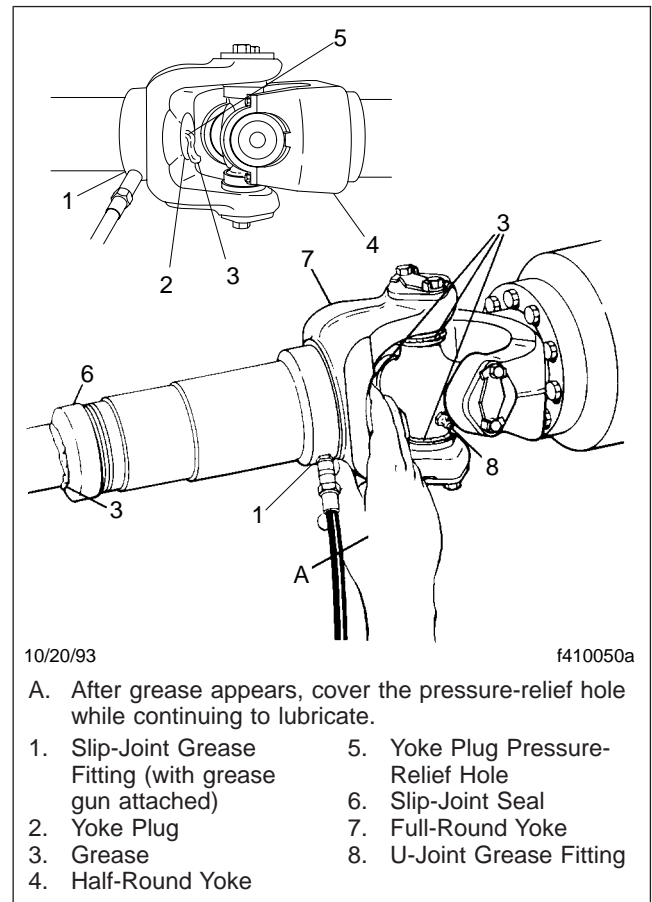

Fig. 5, Slip-Joint and U-Joint Lubricating
9. For driveshafts with slip-joints, check that the yoke plug is not loose or missing. See **Fig. 5**, Ref. 2. Replace the yoke plug if needed. If the yoke plug is missing, the splined shaft may be hitting the yoke plug and knocking it out; check the driveshaft for proper length.
1. Wipe all old grease and dirt from each U-joint grease fitting. See **Fig. 5**, Ref. 8.
1. Wipe all old grease and dirt from the slip-joint grease fitting. See **Fig. 5**, Ref. 1.
joint seal, see **Fig. 5**, Ref. 6. This ensures complete lubrication of the splines.